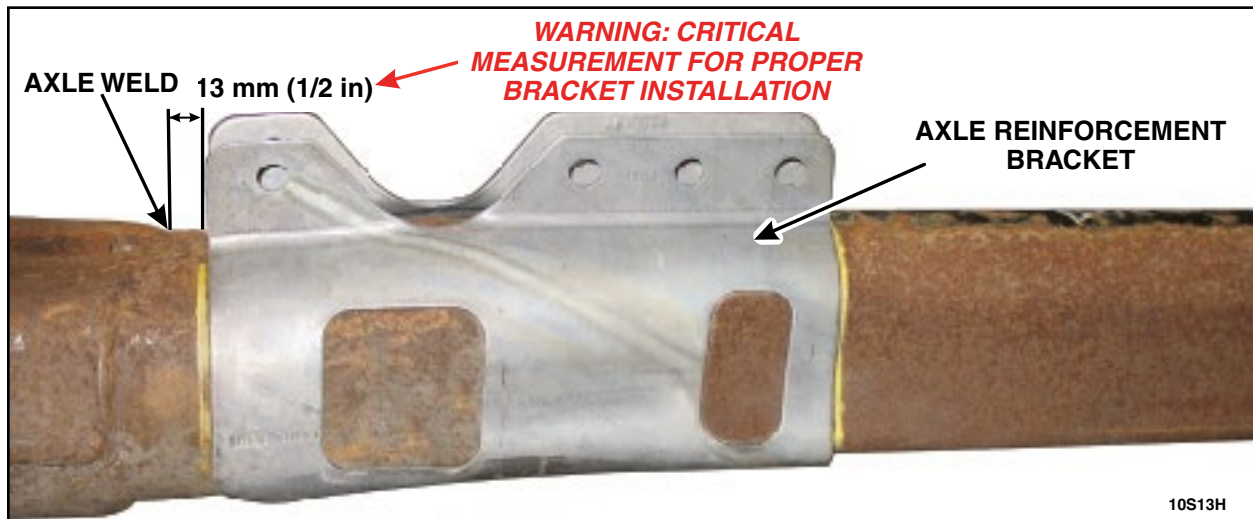

FIGURE 1
2. *Using a hammer, dry fit both sets of axle reinforcement brackets 13 mm (1/2 in) from the top of the axle weld. Using a paint pen or marker, outline the outer edges of the axle reinforcement brackets. See Figure 1.*